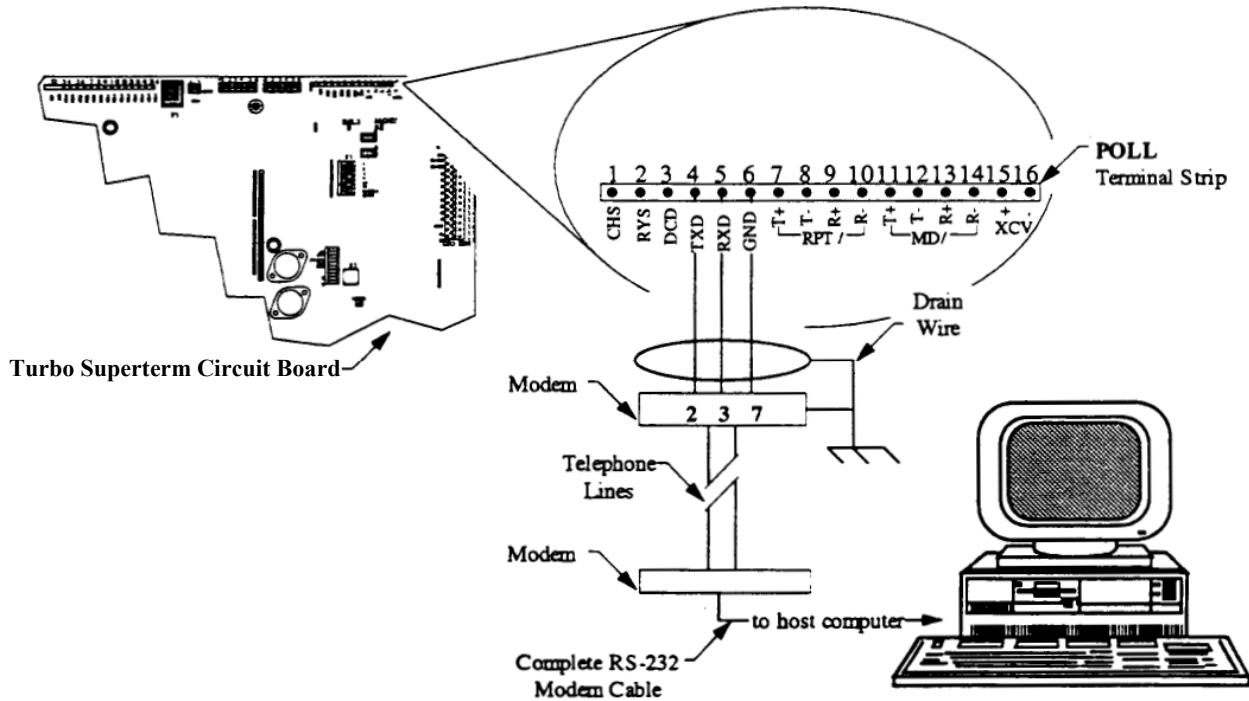

Figure 28 - Turbo Superterm-to-Modem-to-Computer Connection
Figure 28 shows a Turbo Superterm-to-host computer connection through a modem.
- 1) Connect the **Transmit** pin of the RS-232 device to POLL terminal strip pin number 5 (labeled RxD) (see Figure 28).